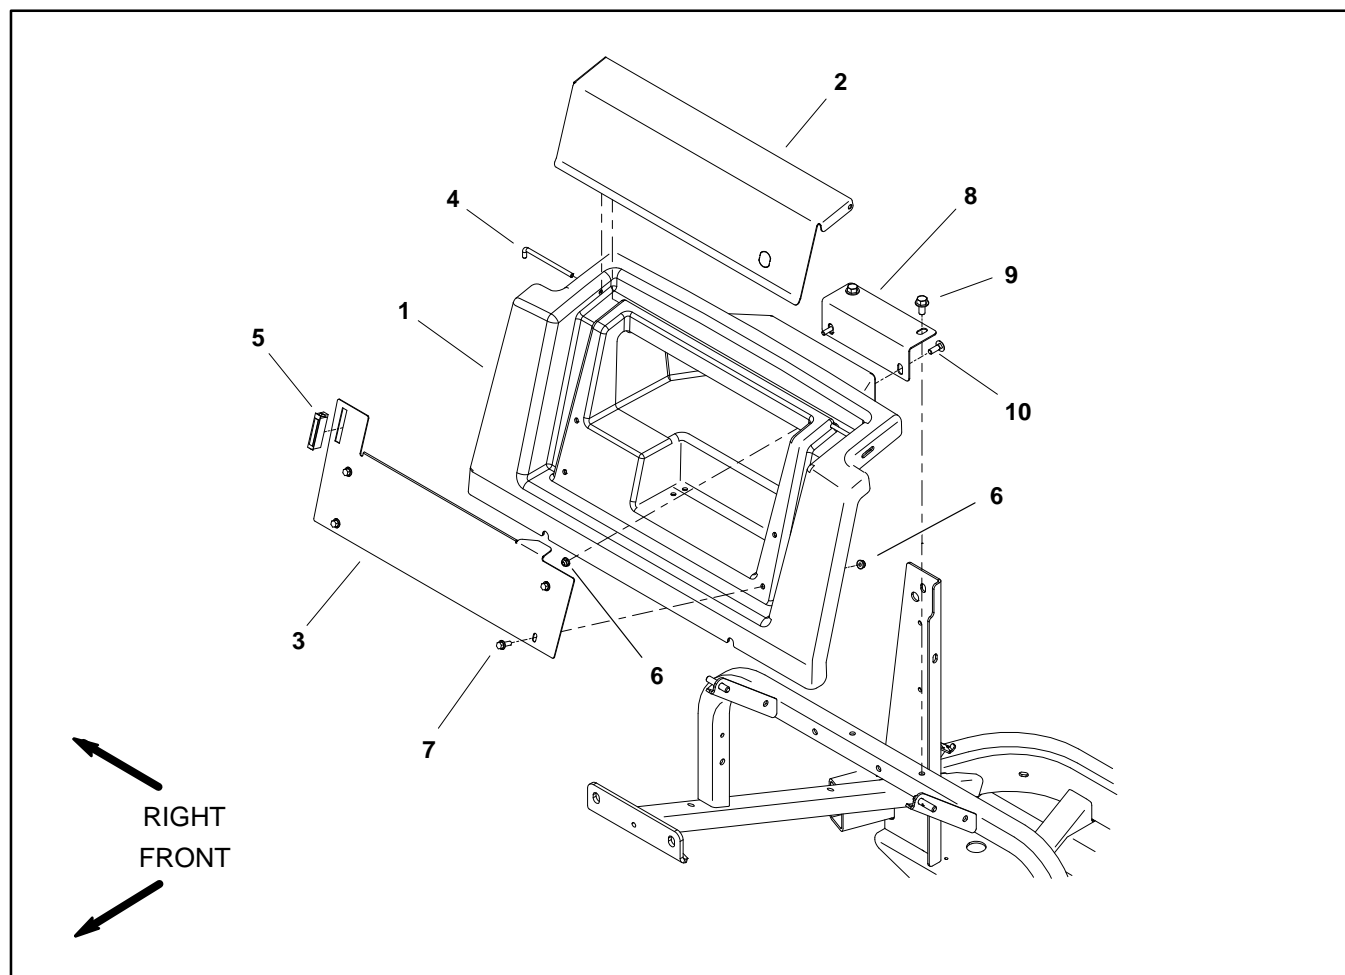

Figure 55
Removal (Fig. 55)
3. Remove two (2) flange head screws (item 9) that secure storage compartment to frame.
4. Lift storage compartment assembly to separate it from the two (2) shoulder bolts that retain lower edge of housing to frame.
6. If necessary, remove components from storage compartment using Figure 55 as a guide.
Installation (Fig. 55)
1. Secure all removed components to storage compartment using Figure 55 as a guide.
2. Align notches in storage compartment with two (2) shoulder bolts in machine frame and slide compartment onto bolts.
3. Install two (2) flange head screws (item 9) to secure storage compartment to frame.